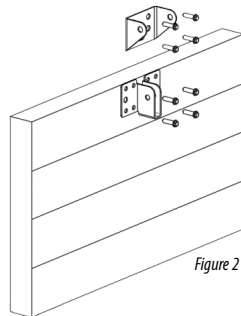

Figure 2
05) INSTALLATION INSTRUCTIONS - Mount Wall Bracket and Door Bracket (Figure 2)
06) INSTALLATION INSTRUCTIONS - Installation Steel C-Rail (Figure 2)